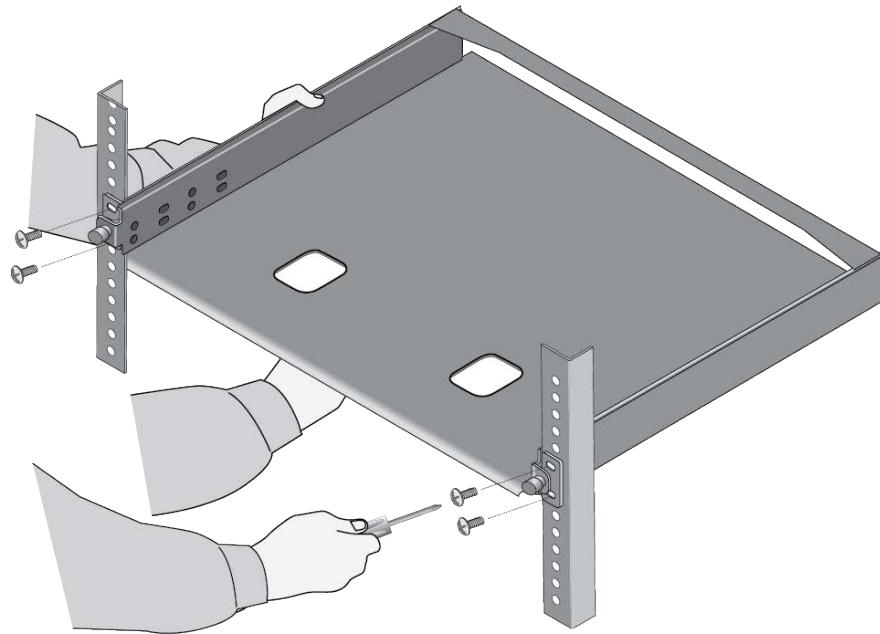

Figure 37. Installing the RKMT-J15 Equipment Rack Tray in an Equipment Rack
4. Have another person hold the RKMT-J15 equipment rack tray at the selected location in the equipment rack while you secure it using four standard equipment rack screws (not provided). Refer to Figure 37.